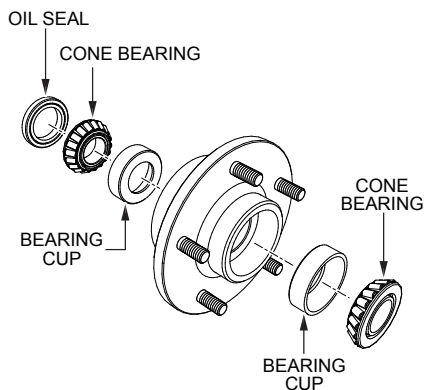

Figure 46. Wheel Hub and Bearings
1. After **every 3 months** of operation, remove the hub dust cap and inspect the wheel bearings (Figure 46). Once a year, or as needed, disassemble the wheel hubs and remove the old grease. Then repack the bearings, forcing grease between the rollers, cone and cage with a good grade of high-speed wheel bearing grease. **NEVER** use grease heavier than 265 ASTM penetration ('No. 2').
2. Fill the wheel hub (Figure 46) with grease to the inside diameter of the outer faces and also fill the hub grease cap.